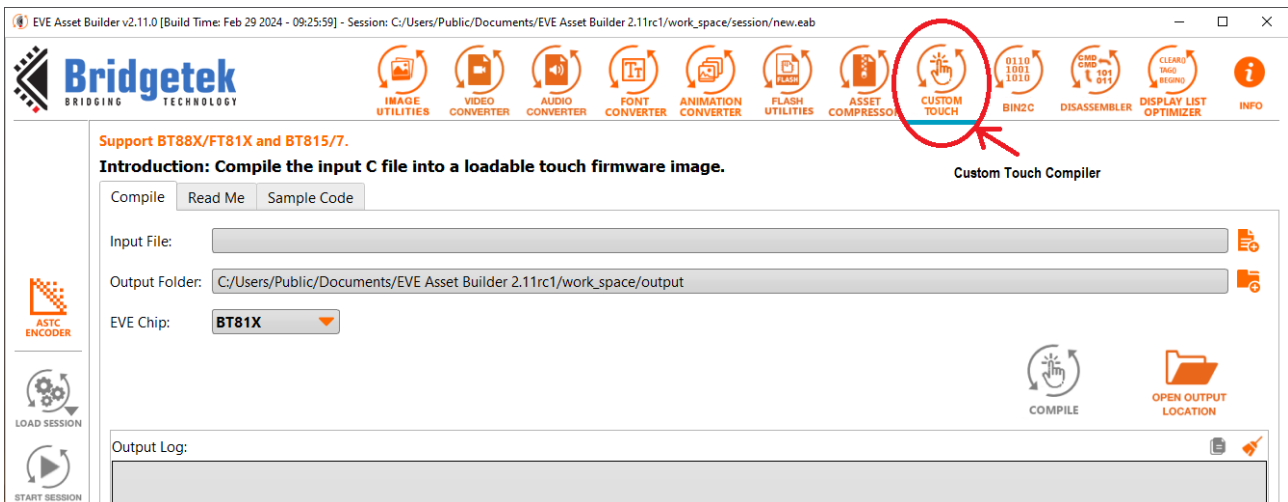

Figure 3 – EVE Asset Builder – Custom Touch Page
1. Click on the Custom Touch button to go to the Custom Touch page as shown in Figure 3.